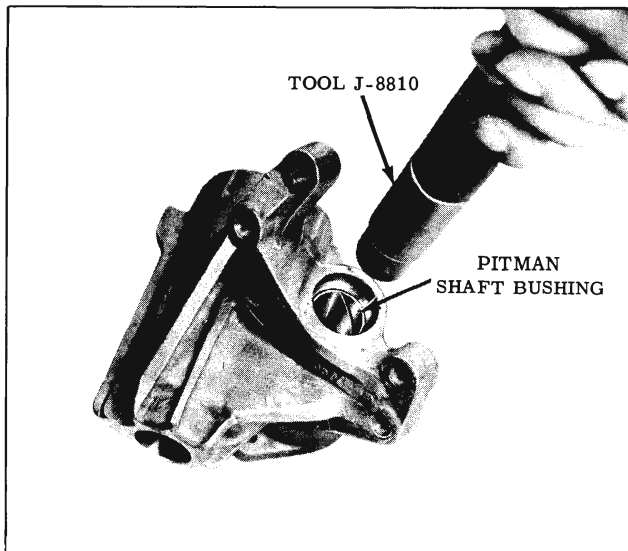

Fig. 4-211 Removing Pitman Shaft Bushing
1. After removing pitman shaft seal, support steering gear housing in an arbor press and press pitman shaft bushing from housing with Tool J-8810 inserted from lower end of housing as shown in Fig. 4-211.